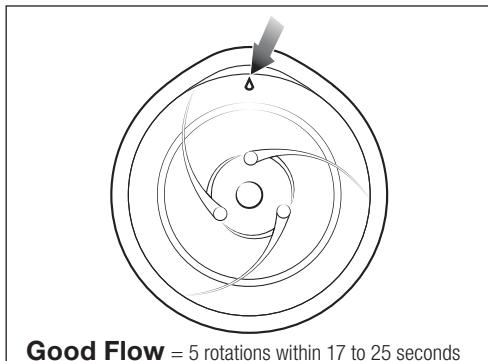

Figure 8. Wheel Speed Indicator
4. Locate the wheel speed indicator on the **right** wheel (Figure 8).